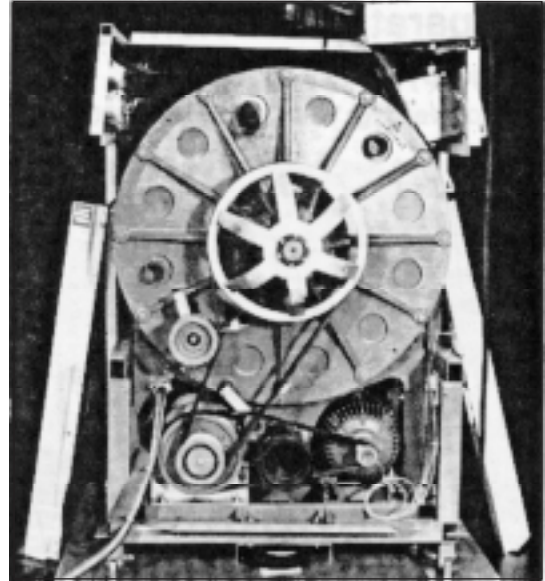

Figure 2. Machine prepared
2. Loosen the automatic unit and turn it up on top of the machine, see figure 2. Be careful with the cable harness.